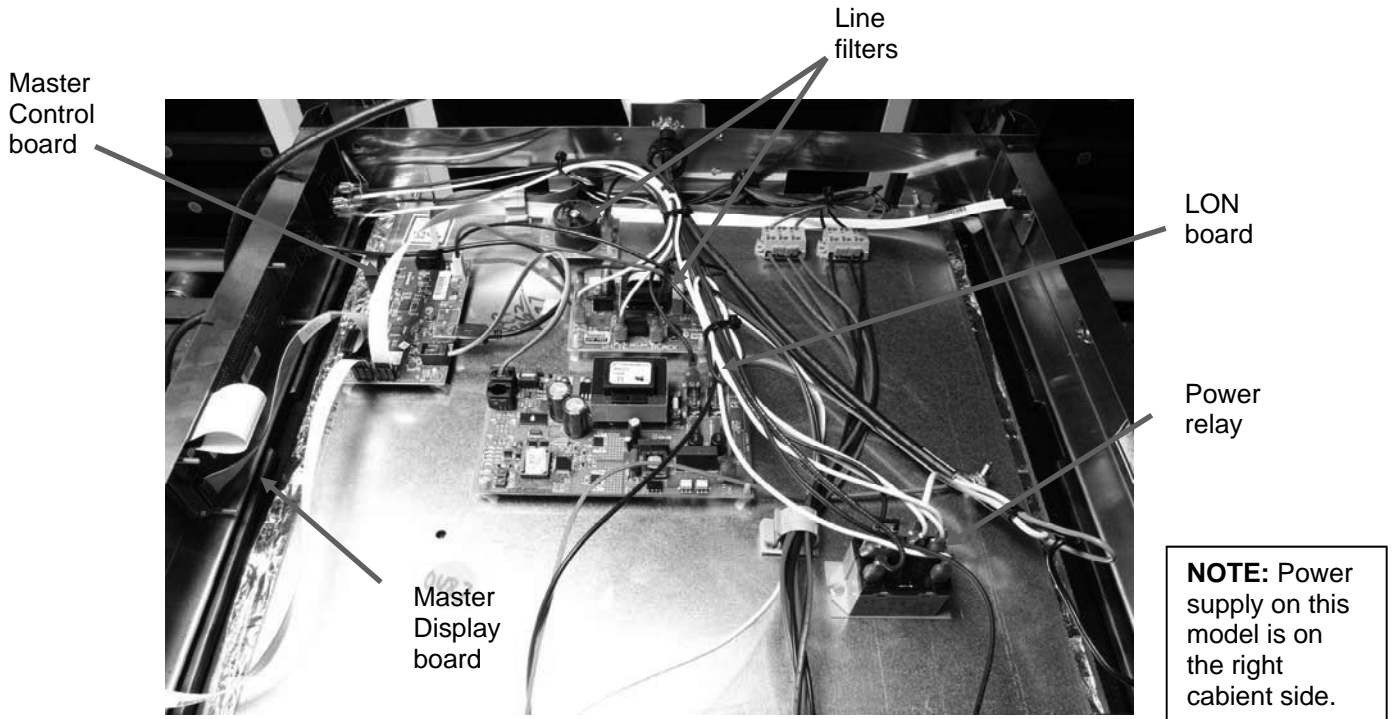

Figure 3: Natural convection design component shelf.
3. The components for the original cabinet and the natural convection model are annotated below (**Fig. 3,4**).